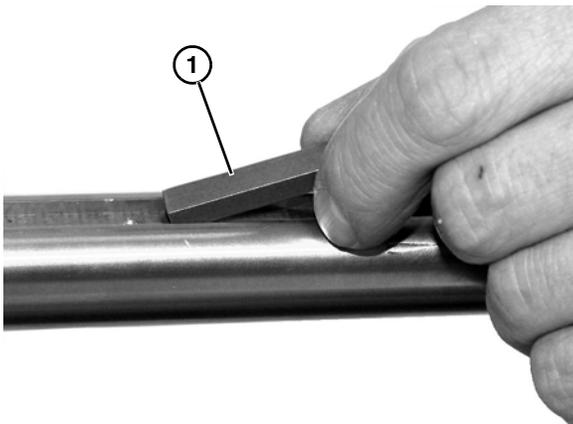

Figure 36
3. Remove output shaft key (**Figure 36, item 1**).